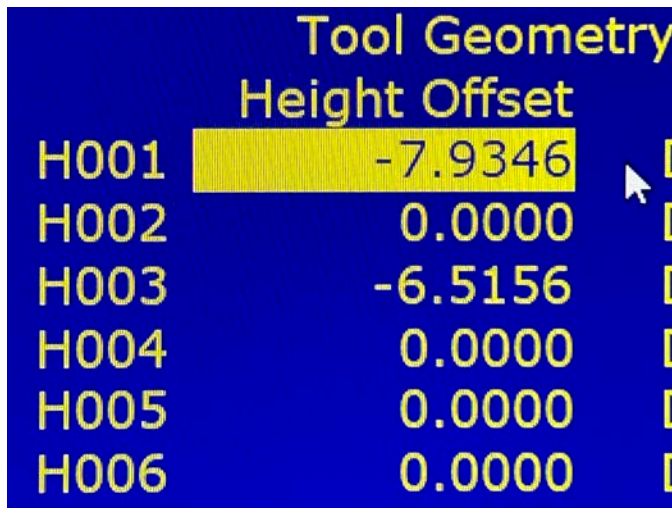

FIGURE 41
- Now go back to the Tool Offset Library and write down the Height Offset value for the same tool. In this case we are using Tool #1 and the Z value is Z-7.9346 (see Figure 41).